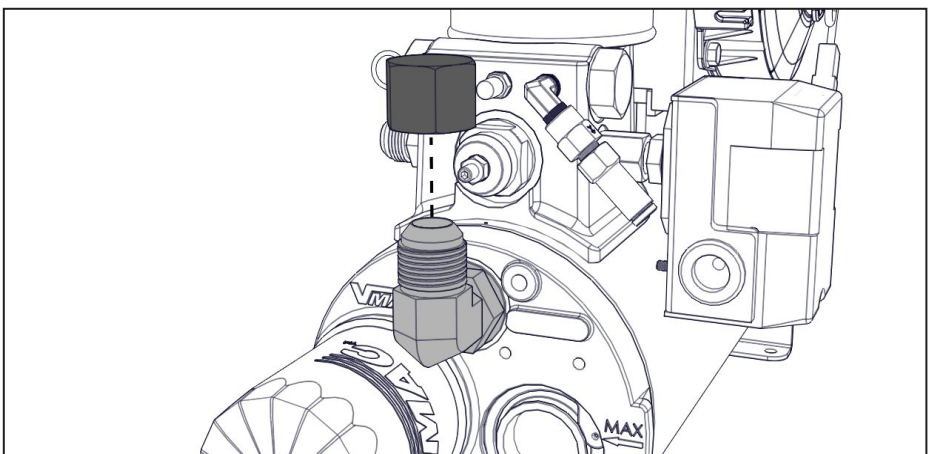

Figure 20 — Compressor oil fill
- Remove the filler cap on the WHASP Tank. Fill the WHASP Tank with VMAC compressor oil until it reaches the "MAX" mark. The air compressor system holds approximately 4 L (1 USG) of oil (Figure 20).